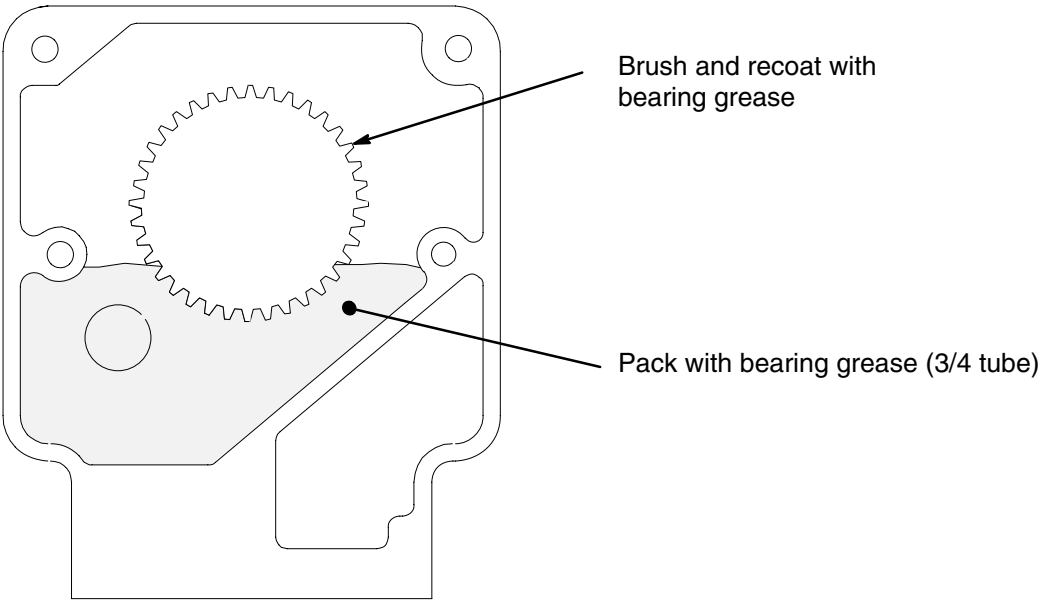

Fig. 2
10. Place the large washer (5) and then the small washer (3) on the crankshaft (8).
11. Insert the crankshaft into the bearing in the drive housing (6) and connecting rod (10).
12. If replacing the complete drive housing assembly (6), brush bearing grease (supplied) on all gear teeth. Then recoat the gear teeth with bearing grease (supplied). Pack the remaining bearing grease into the bottom part of the drive housing. Use 3/4 tube of the grease. See Fig. 2.
13. Install gear (19).
14. Install new gasket (64).